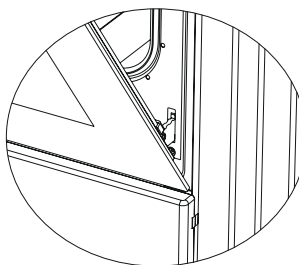

Figure 16.1
3. Afterwards, close the oven door as to lean on the hinge lock as shown in figure 16.1.